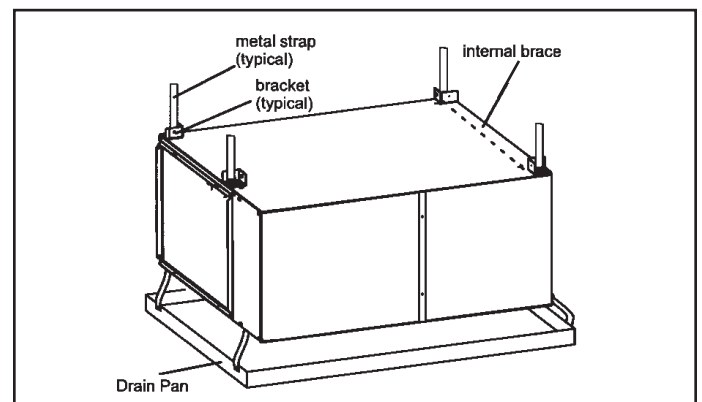
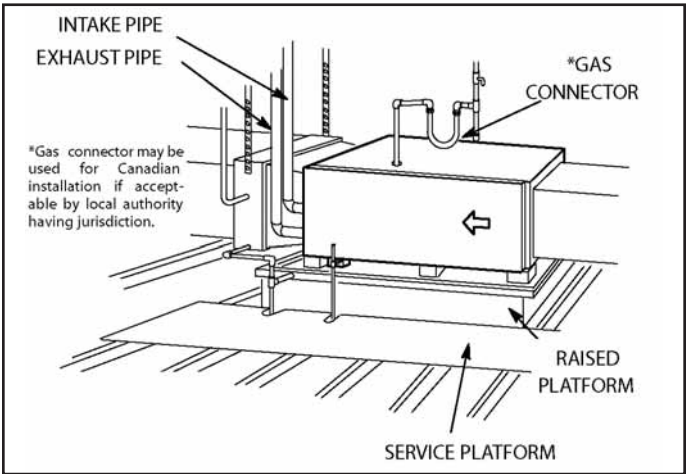

Figure 19. Typical Horizontal Application
Figure 20.
This furnace may be installed in either an attic or a crawl space. Either suspend the furnace from roof rafters or floor joists, as shown in Figure 19, or install the furnace on a platform, as shown in Figure 20.
- 2. Construct a raised wooden frame and cover frame with a plywood sheet. If unit is installed above finished space, fabricate an auxiliary drain pan to be installed under unit. Set unit in drain pan as shown in Figure 20. Leave 8 inches for service clearance below unit for condensate trap.